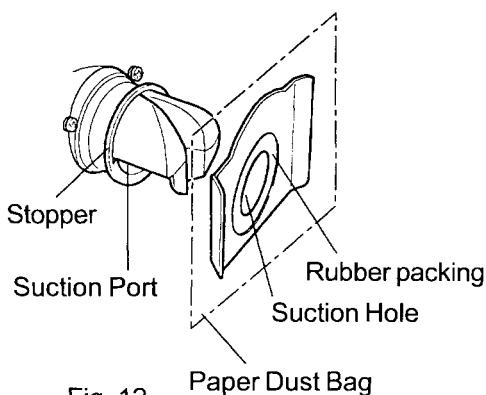

Fig. 12
- (2) Insert the suction port of the dust collector into the suction hole of the paper dust bag. At this time, check that the rubber packing of the paper filter is securely caught by the stopper of the suction port (Fig. 12).